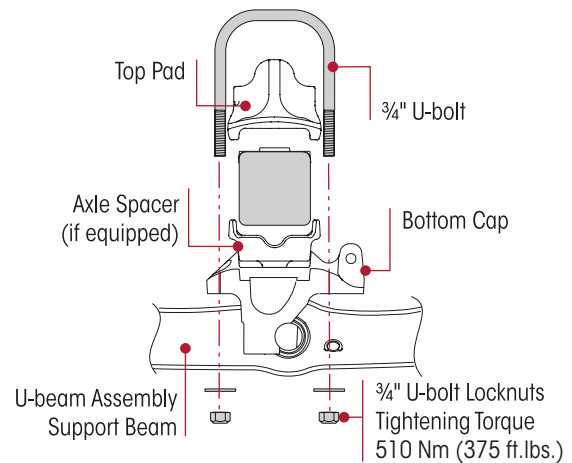

Figure 7: U-Bolt Torque
1. U-bolt locknuts must be torqued to specification at preparation for delivery. Refer Figure 7.